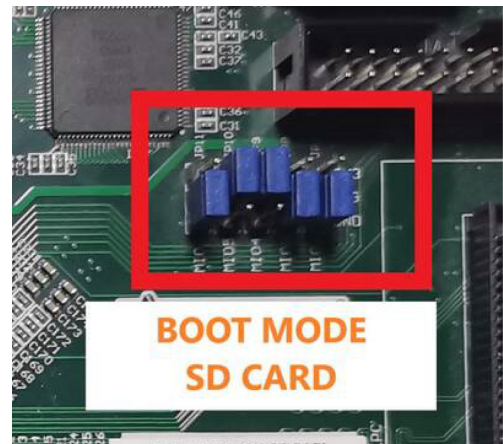

Figure 10. Jumpers Boot Mode SD Card
2. Set the jumpers, as shown in Figure 10.